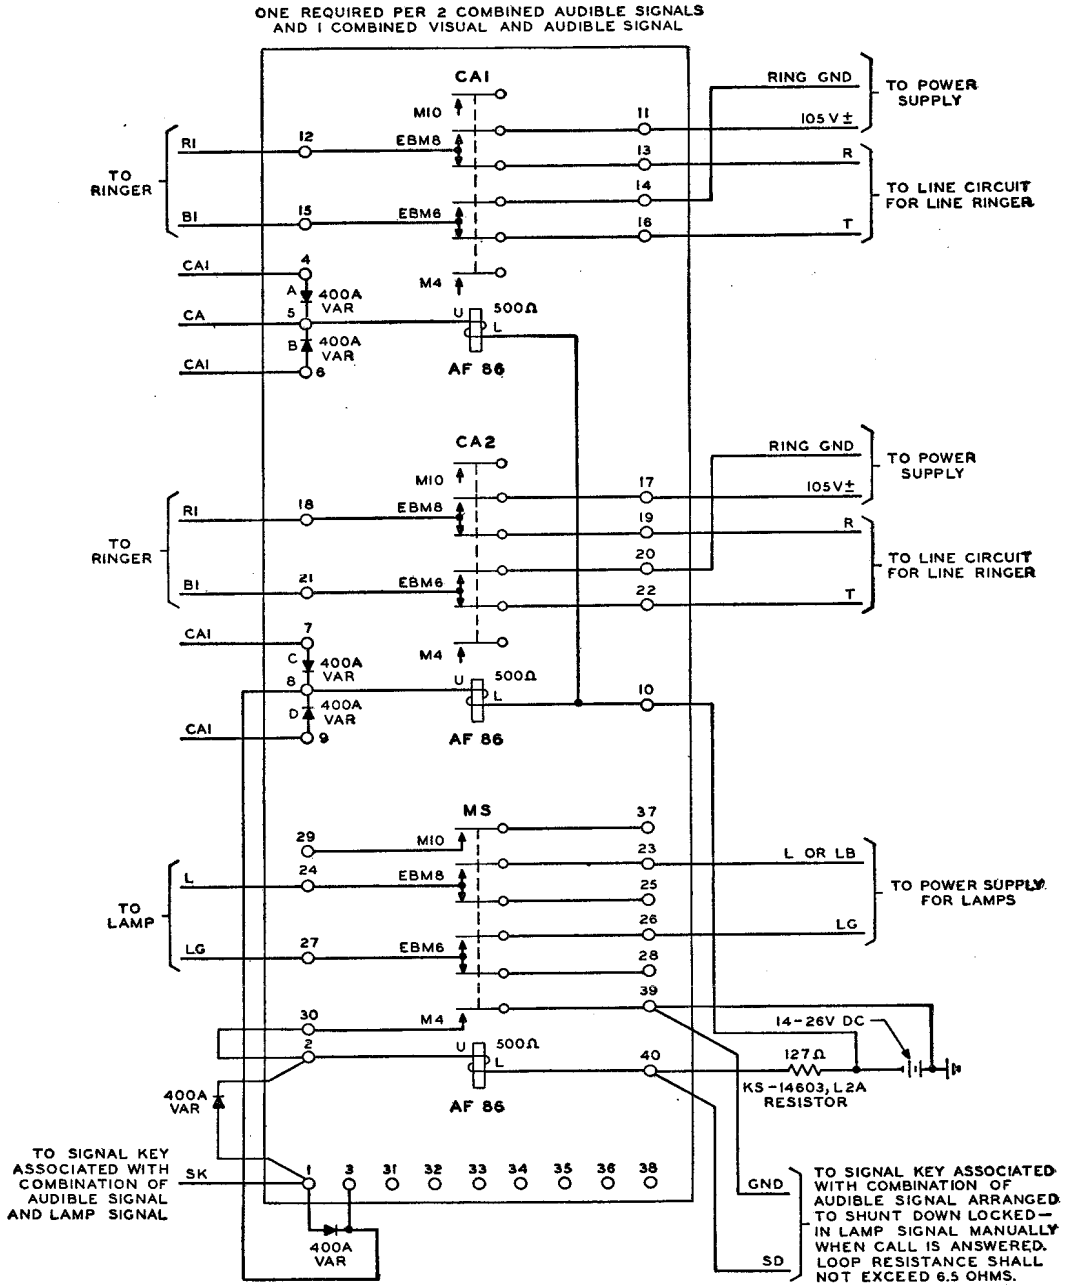

Fig. 7 - 227A KTU - Multisignal Control Circuit for Ringers Arranged for Combination of Audible Signal and Visual Signal
2.06 Fig. 7 and 8 provide for the combination of an audible signal with a locked-in visual signal. The locked-in visual signal can be released by manual operation of a SHUNT DOWN key at the called station.